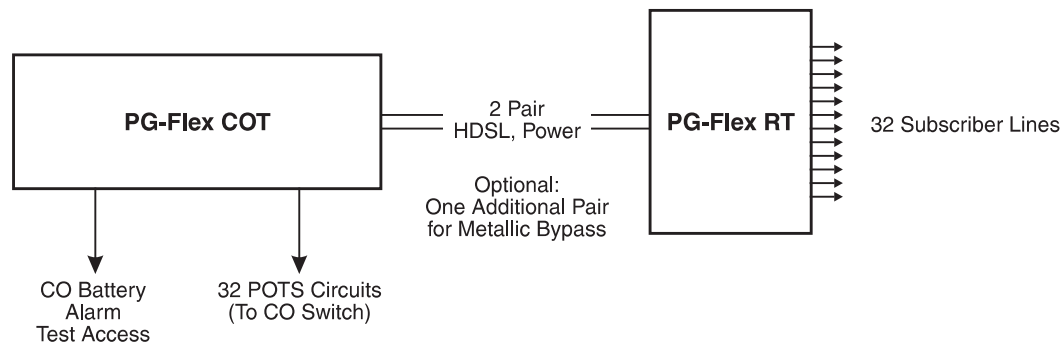

Figure 2. Typical PG-Flex Configuration.
4.2 System Flex Configuration. Figure 2 shows a typical PG-Flex system that consists of:
- 4.5** For the system configuration depicted in Figure 2, the maximum distance between the COT and the RT is 10.7 kft (3.3 km), assuming the HDSL lines are 24 gauge (0.5 mm). Table 2 shows the maximum distance between the COT and RT for various gauge wire. Due to the nature of HDSL transmission technology, the HDSL lines do not require any special conditioning and may include unterminated bridge taps, but cannot include load coils.